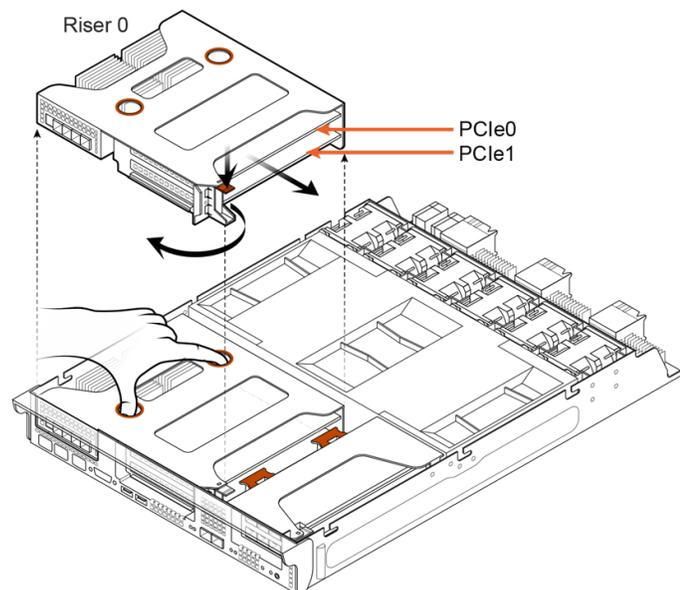

Figure 13-12. Removing Riser 0
1. Grip riser 0 by the two finger holes as shown in Figure 13-12 and pull it straight up to remove it from the chassis.